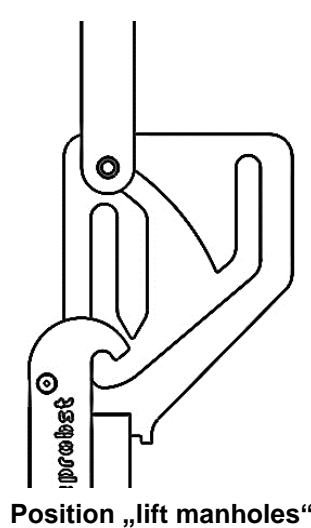

Fig. 2
- Move device lifting hook by diagonal pulling of load tie rod in position "lift" (Fig. 2).